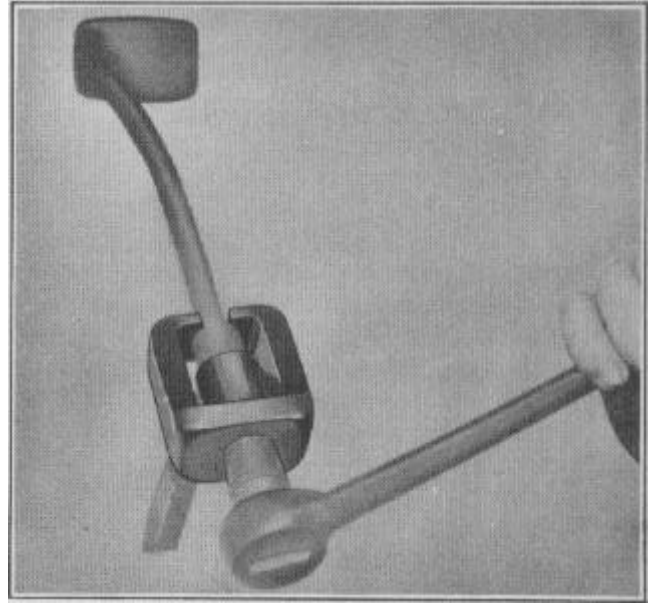

FIGURE 7
15. Remove the brake pedal using tool J-2795, Figure 7, by removing the nut from the pedal rod and attaching the adapter to the pedal rod. Lock the adapter and pedal arm together with the puller body, back off adapter removing pedal rod from pedal arm.